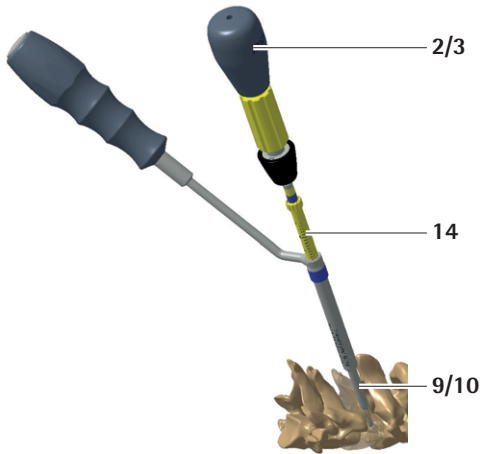

Fig. 5
- ▶ Position the guide at the desired entry site and advance the drill until the stop is reached, see Fig. 5.